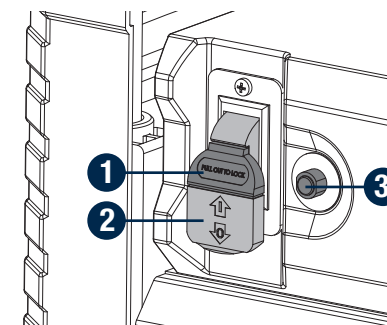

Fig. 10
## ON/OFF SWITCH (Fig. 10)
- Press the switch (2) down to turn it off.
- Press the switch (2) down. Remove the switch key (1) from the switch, and store it in a safe, secure location.
**OVERLOAD PROTECTOR/RESET BUTTON (Fig. 10)**